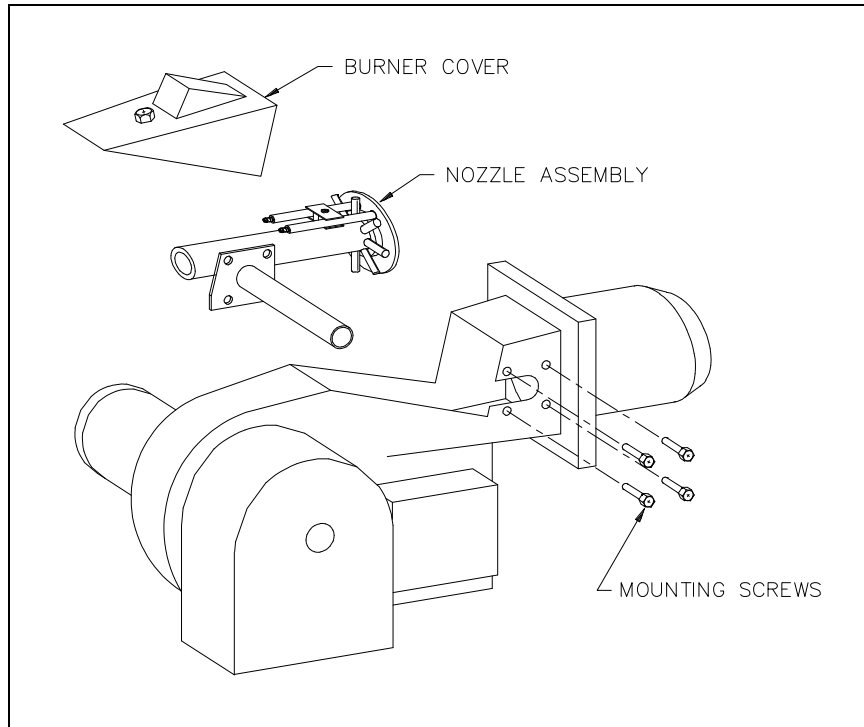

Figure 9-2
8. Next, remove the four bolts that hold the nozzle assembly to the burner housing. Once the nozzle assembly is free, pull it back slightly and remove the wires going to the flame and ignition rod. The easiest method of removing the nozzle assembly is to rotate it 90° upward and tilt slightly forward while working it towards you (see Figure 9-2). Be careful not to damage the electrodes.